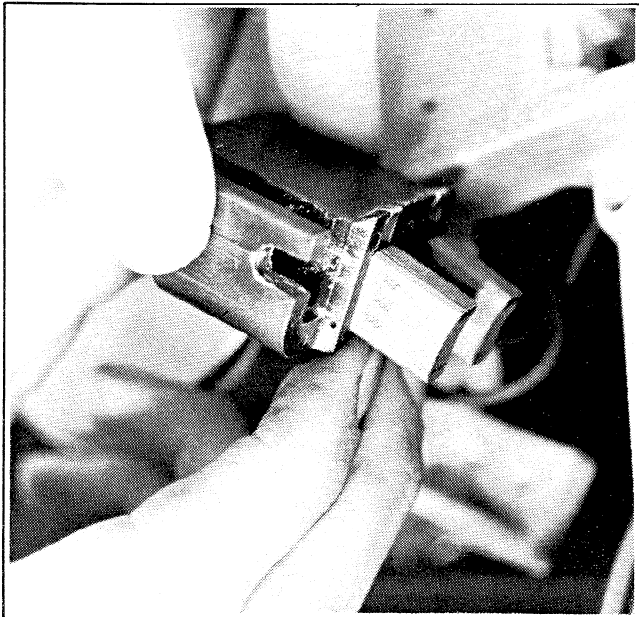

Figure 6-21. Brushes
2. The brushes must be free to move within the holder and held in proper contact by the springs. When properly positioned, spring pressure on the brush surface will cause the brush to wear evenly. Figure 6-21 shows normal brush wear.